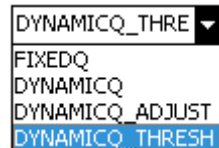

Figure 12
4. Inventory Algorithm: Allows the application to set the currently-active singulation algorithm, as figure 12. The option is as follows: